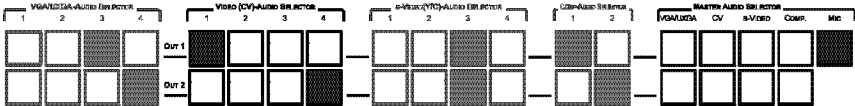

Figure 17: Switching to the MIC in the Master Audio Mode
When a microphone is connected to the MIC IN XLR connector, you can press the MIC button under the MASTER AUDIO SELECTOR section. The MIC button illuminates (see Figure 17) and the speakers output the MIC IN⁶ audio signal, while retaining the current video display. You can return to the composite video (CV) audio output by pressing the relevant CV button under the MASTER AUDIO SELECTOR section once again.